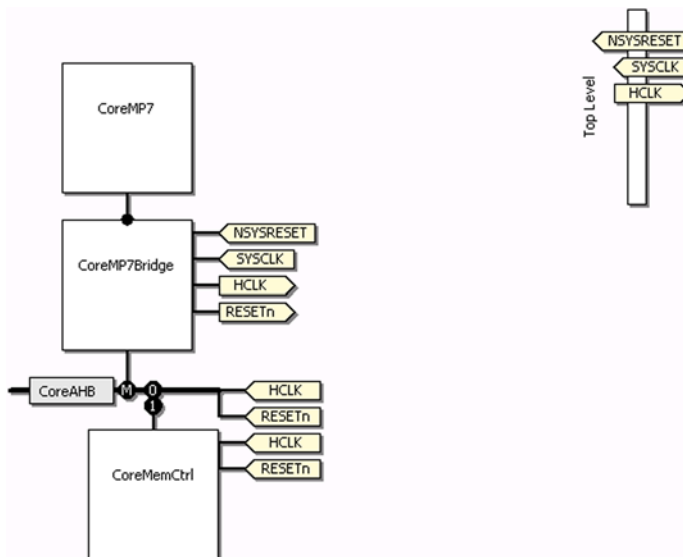

Figure 5-4. CoreConsole after Auto Stitching
3. Once Auto Stitching is complete, your design should resemble Figure 5-4.